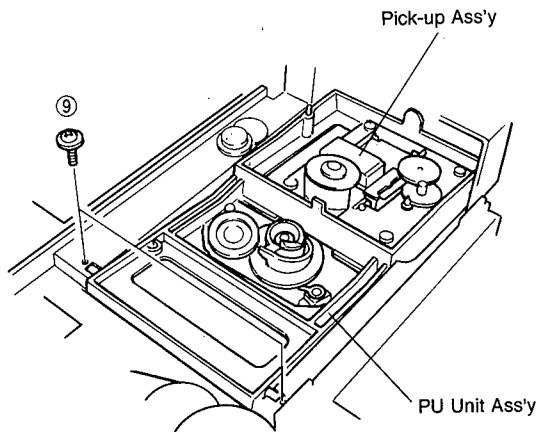

Fig. 3
- a. Remove 2 screws (⑨) and then remove the PU Unit Ass'y in Fig. 3.